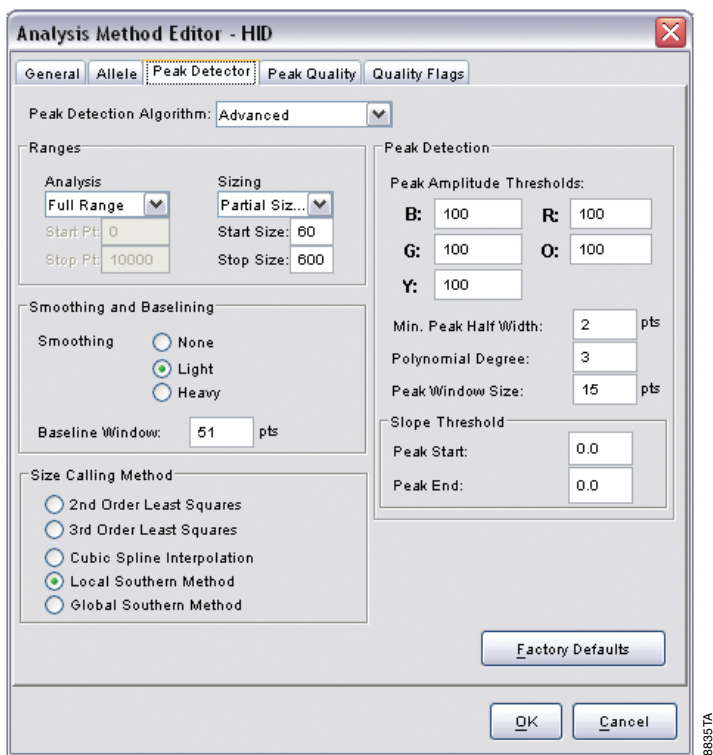

Figure 14. The GeneMapper® ID 'Peak Detector' tab.
- Select the 'Peak Detector' tab. We recommend the settings shown in Figure 14.